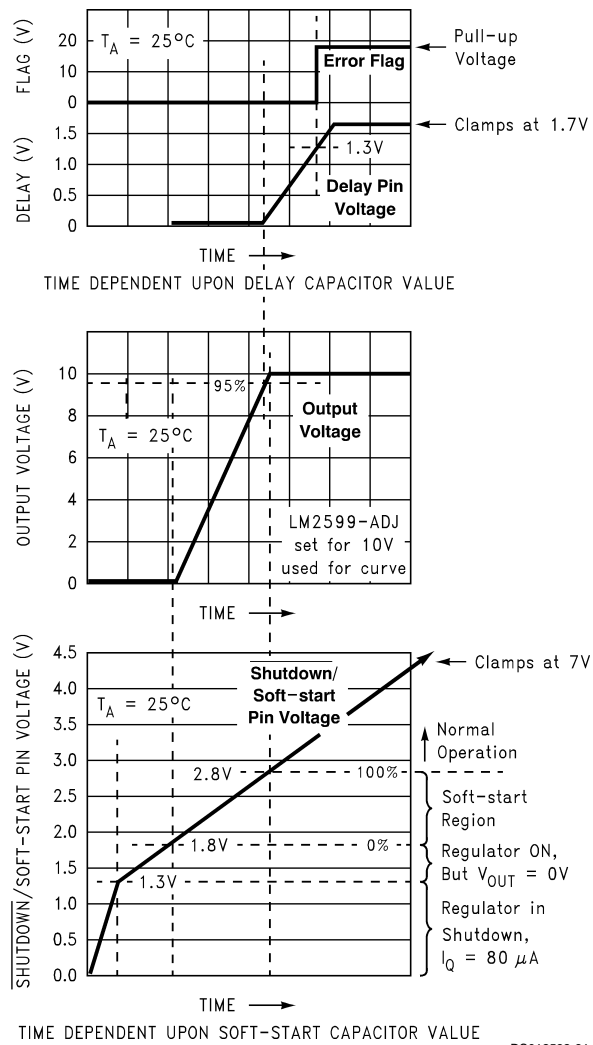
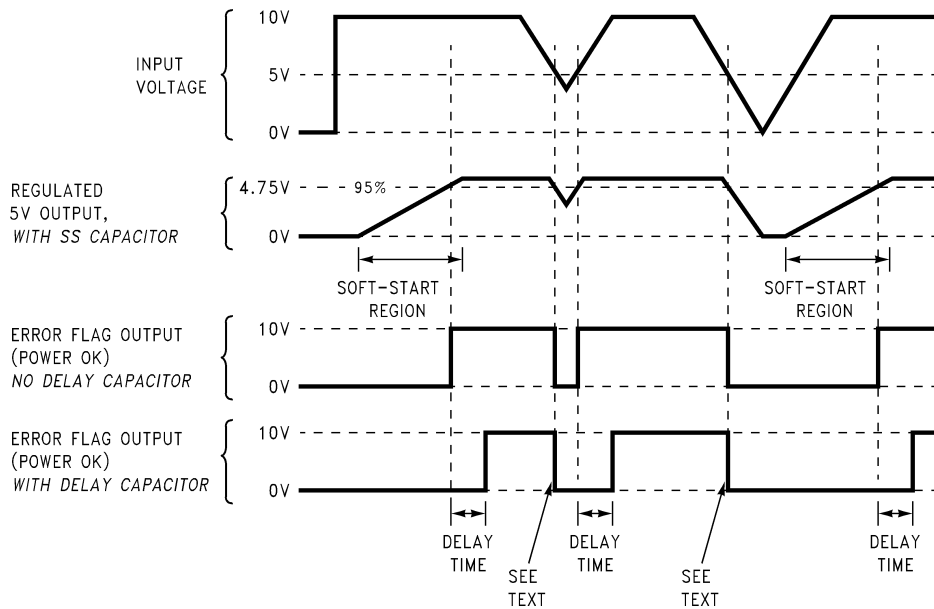

FIGURE 13. Soft-start, Delay, Error, Output
FIGURE 14. Timing Diagram for 5V Output
C_{SS} —A capacitor on this pin provides the regulator with a Soft-start feature (slow start-up). When the DC input voltage is first applied to the regulator, or when the Shutdown /Soft-start pin is allowed to go high, a constant current (approximately $5 \mu A$) begins charging this capacitor). As the capacitor voltage rises, the regulator goes through four operating regions (See the bottom curve in Figure 13).
3. Soft-start Region. When the \overline{SD} /SS pin voltage is between $1.8V$ and $2.8V$ ($@ 25^{\circ}C$), the regulator is in a Soft-start condition. The switch (Pin 2) duty cycle initially starts out very low, with narrow pulses and gradually get wider as the capacitor \overline{SD} /SS pin ramps up towards $2.8V$. As the duty cycle increases, the output voltage also increases at a controlled ramp up. See the center curve in Figure 13. The input supply current requirement also starts out at a low level for
Note: The lower curve shown in Figure 13 shows the Soft-start region from 0% to 100%. This is not the duty cycle percentage, but the output voltage percentage. Also, the Soft-start voltage range has a negative temperature coefficient associated with it. See the Soft-start curve in the electrical characteristics section.
C_{DELAY} — Provides delay for the error flag output. See the upper curve in *Figure 13*, and also refer to timing diagrams in *Figure 14*. A capacitor on this pin provides a time delay between the time the regulated output voltage (when it is increasing in value) reaches 95% of the nominal output voltage, and the time the error flag output goes high. A 3 μA constant current from the delay pin charges the delay capacitor resulting in a voltage ramp. When this voltage reaches a threshold of approximately 1.3V, the open collector error flag output (or power OK) goes high. This signal can be used to indicate that the regulated output has reached the correct voltage and has stabilized.